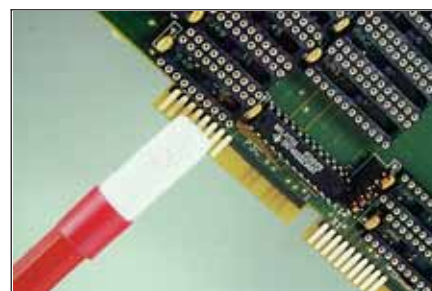

Figure 7 Sample plating anodes shown with fabric wrapping.
3. Connect the plating probe to the power supply (+) or red jack. (See Figure 7.)